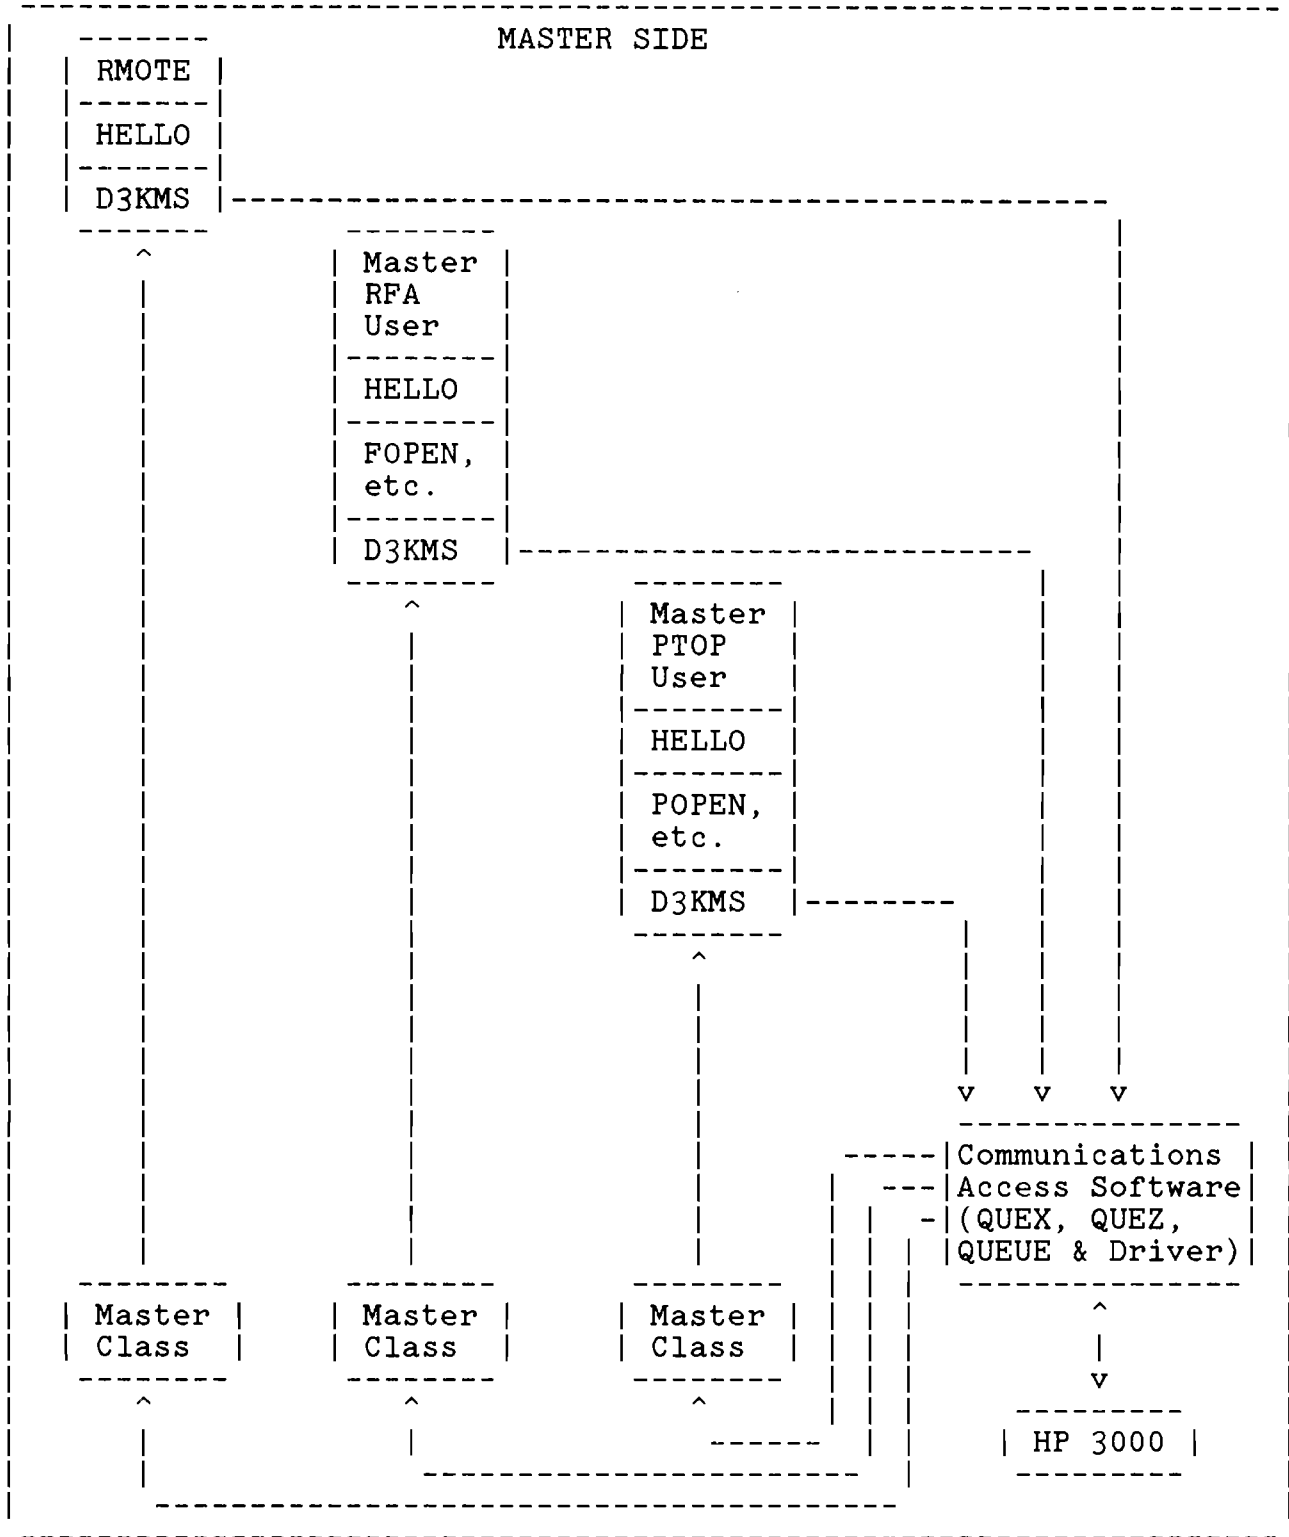
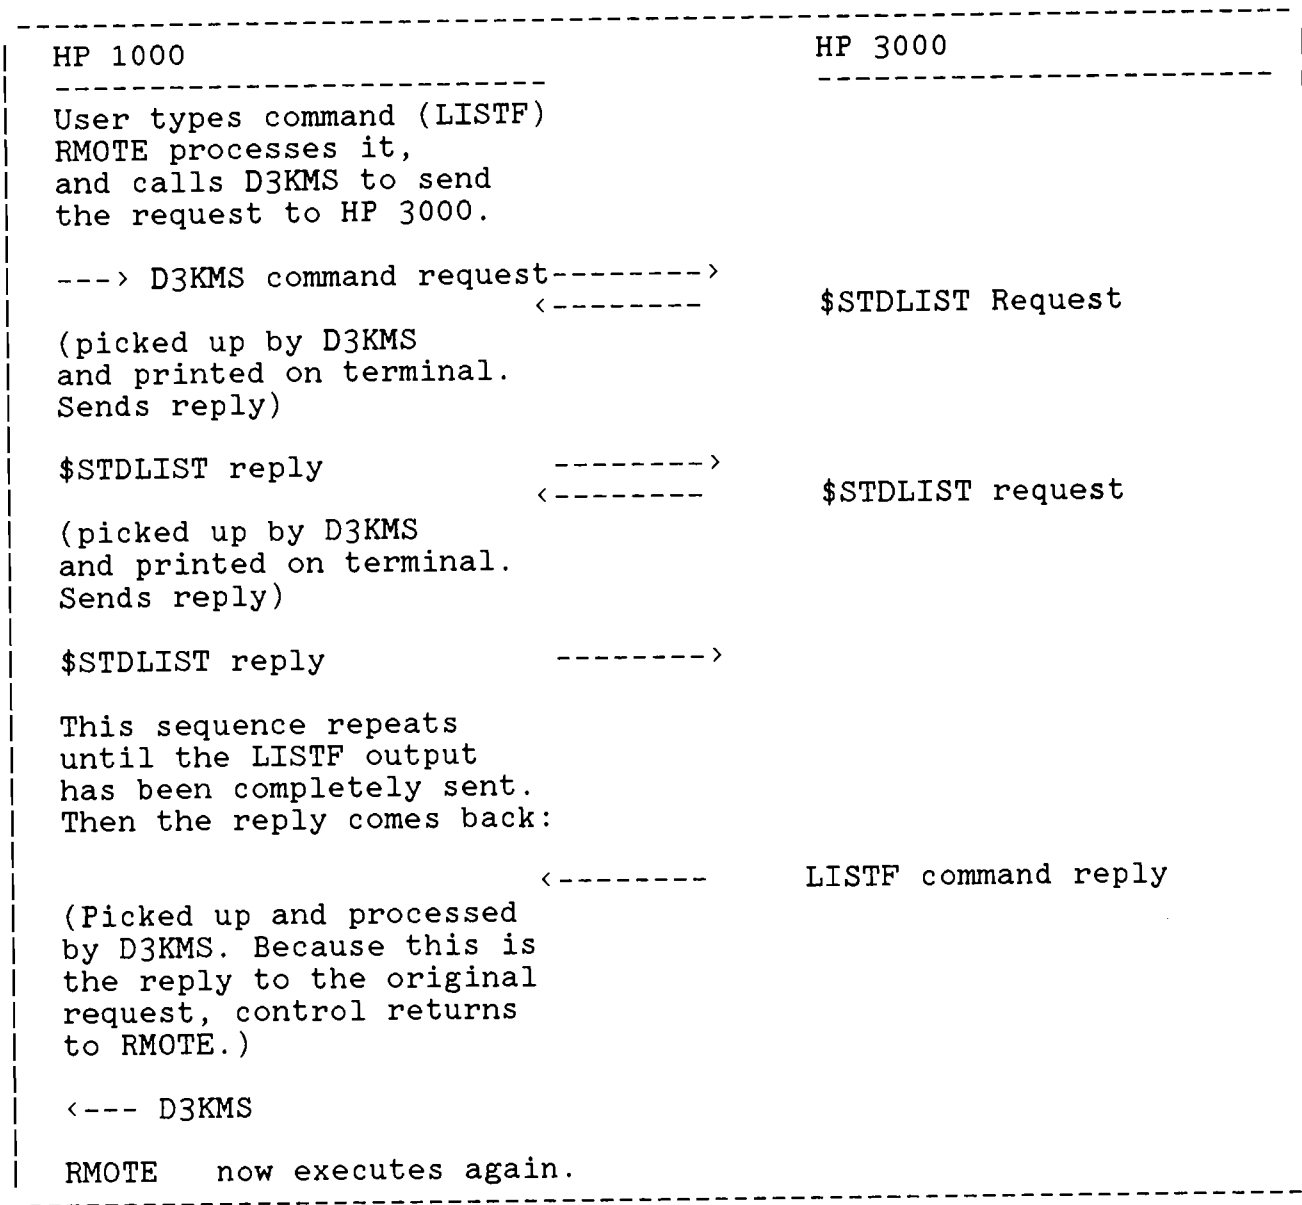

Figure 5-14. DS/1000-3000 Master Side Modules
Figure 5-15. RMOTE and D3KMS Operation
Figure 5-14 is a block diagram of the software which delivers DS/3000 messages from master users at the 1000 to the 3000.
- Processes intervening \$STDLIST/\$STDIN requests from the HP 3000. These could be the result of an operator command (see Figure 5-15) or a PTOP slave program's I/O request.
The example in Figure 5-14 shows how RMOTE and D3KMS work together. Suppose an operator runs RMOTE, switches to remote, signs onto an HP 3000, and sends a LISTF command. Figure 5-15 shows the exchange that takes place.